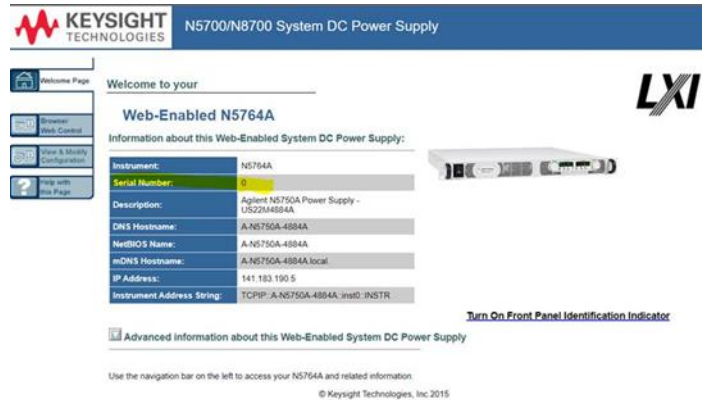
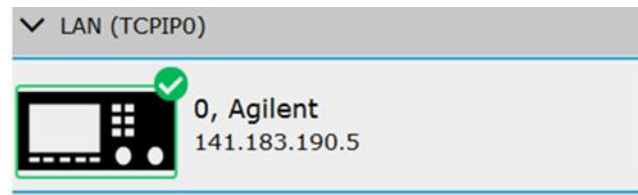

Figure 1: Serial number is “0” in WebUI
Figure 2: Serial number is “0” in Keysight Connection Expert
Units in the above serial number range may encounter instrument unsecure store and result in missing serial number. The serial number will show “0” in WebUI and Keysight Connection Expert as shown in Figure 1 and Figure 2 respectively.
2. Go to WebUI and Keysight Connection Expert to verify if the serial number is “0” as shown in Figure 1 and Figure 2 respectively.